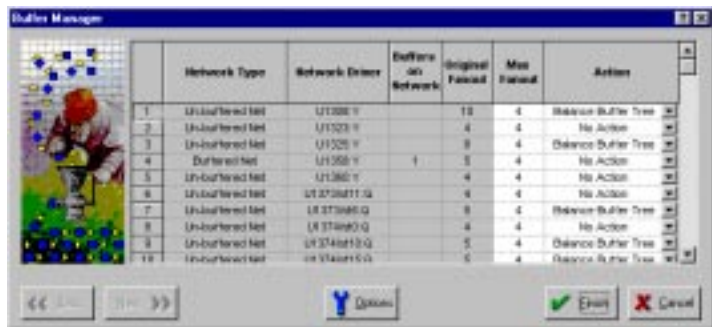

Figure 5-25. Buffer Manager Dialog Box
1. **Select Buffer Manager from the Tools menu.** This displays the Buffer Manager dialog box, as shown in Figure 5-25.